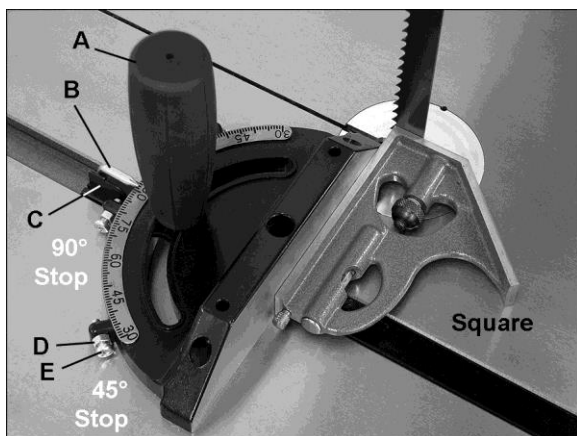

Figure 32
1. Place a square against miter gauge face, and against flat of blade, as shown in Figure 32. (Place square against flat of blade, not against the teeth which are set wider than the blade body). A wide blade is preferred for this procedure.
2. Flip 90° stop plate (C) out of the way, and loosen handle (A). Shift miter gauge body until it is flush with square, then re-tighten handle (A).
3. Flip stop plate (C) back down, and loosen 90° stop hex nut. Adjust screw until it contacts 90° stop plate.
5. Loosen set screw at base of pointer (B) and shift pointer so that it lines up with 90° mark on scale.
7. The 45° stops can be checked in similar fashion, using an angle gauge similar to that shown in Figure 32.